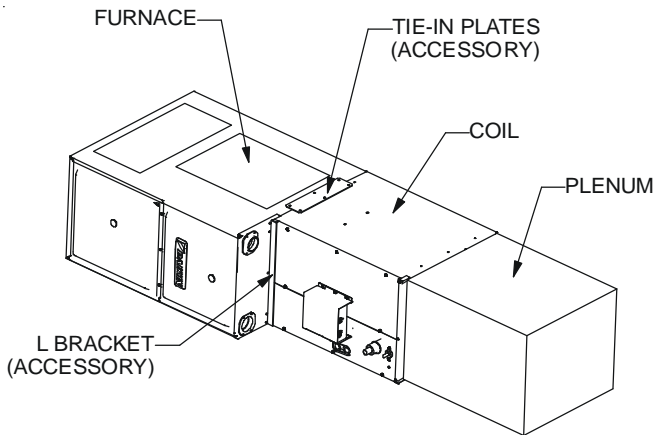

Figure 5A
- Using the hardware and brackets provided, attach the coil to the furnace then attach the plenum to the coil (Figure 5A-5C)